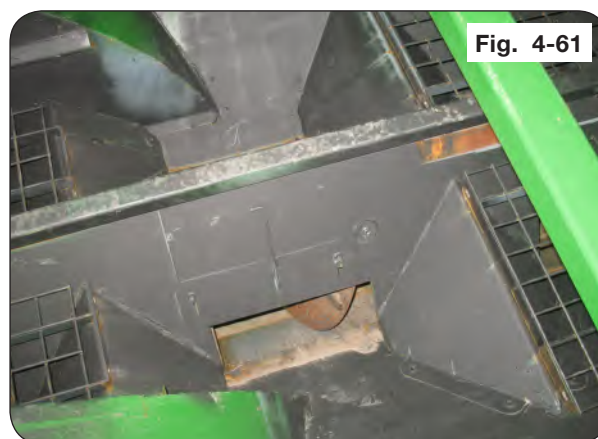

Fig. 4-61
23. Slide the rear auger forward. Align the pins and holes with the rear auger pipe. (Fig. 4-61)
2. Remove the flange screws in both middle grates inside the cart. Remove the grates. (Fig. 4-61)